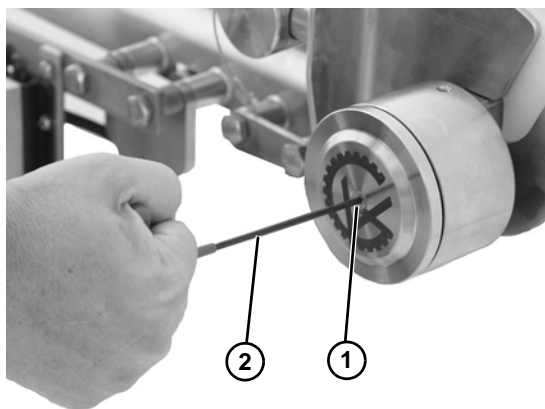

Figure 15
1. Loosen the screw (Figure 15, item 1) and remove the cover using a hex wrench (Figure 15, item 2).